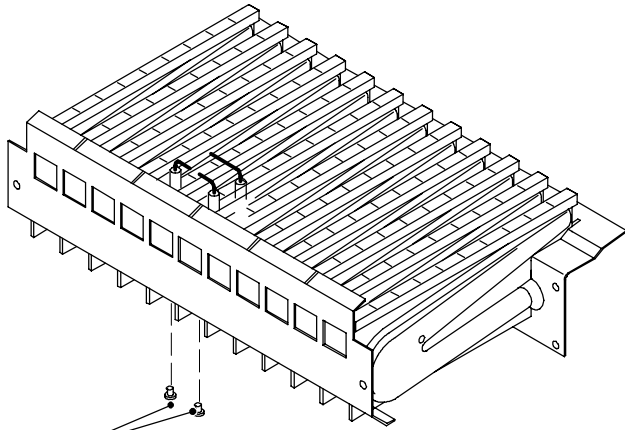

Fig. 4
- 4 Unscrew the screws A (Fig. 4) which hold the electrodes to the burner.